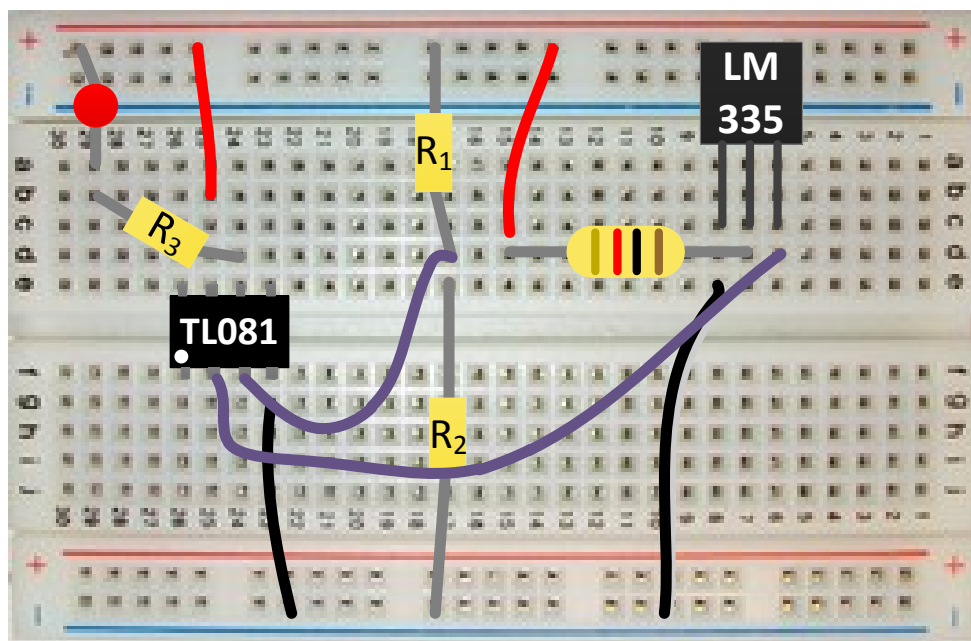

Figure 8: Final temperature switch circuit.
- c) You have two connections left to make, which are shown as purple wires in Figure 8.